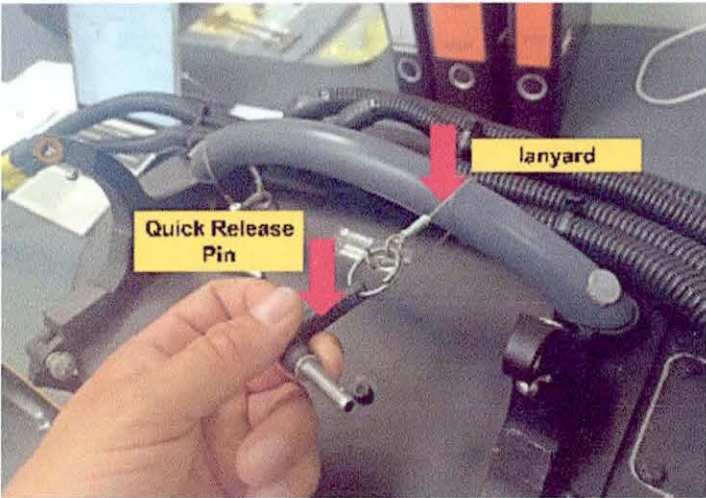

FIGURE 6: HANDLE RE-INSTALLATION
11. Re-install handle (P/N L258M2118801) with Quick Release Pins on to the Dart brackets per Figure 6 using Screws (P/N EN3759-050012A), Washers (EN2139-05010), and Plugs (P/N GPN300F5) retained at Step 2. Install Plugs wet with PR1782 B2 or MC780 B1/2 or MC780 B1 or MC780 B2 sealant.